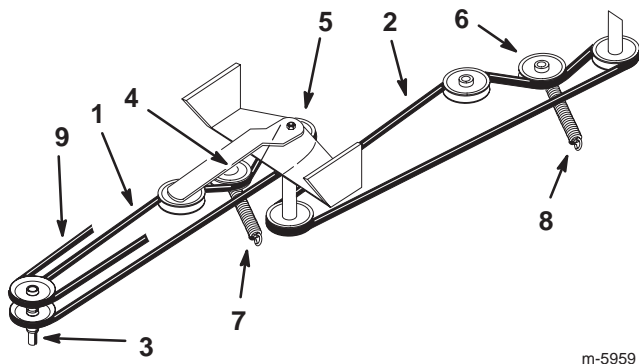

Figure 7
6. Install the drive belt around the jack shaft pulley. Do not put it around the drive belt idler (Fig. 7).
7. Loosely, install both the drive belt and transaxle belt around the engine pulley (Fig. 7).
10. Install the drive belt completely around all pulleys and idler pulley (Fig. 7).
11. Install the drive belt idler spring (Fig. 7).
12. Install the transaxle belt completely around all pulleys (Fig. 7).
9. Install the collector belt onto the the jack shaft pulley and fully install the collector belt (Fig. 7).